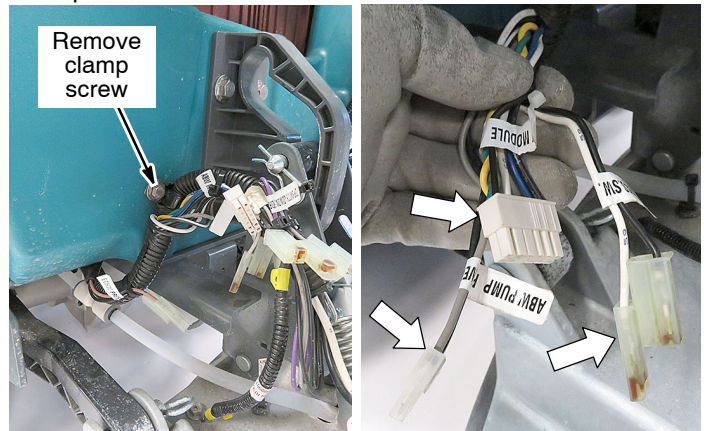

Fig. 2
4. Remove the harness clamp screw near the scrub head as shown. Locate the three factory installed ABW wire harness connectors (Figure 2). The ABW wires are labeled accordingly. Cut the zip-tie to free up the wire connectors.